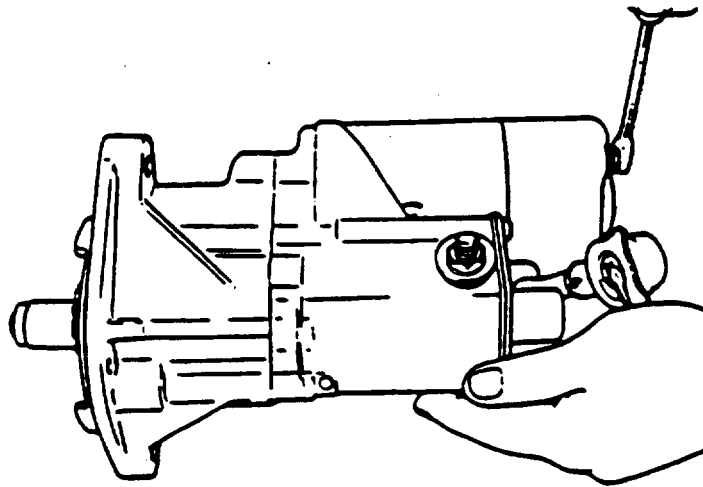

FIGURE 3-17. Removing Through Bolts (Typical)
- c. Remove two through bolts (7, FIGURE 3-15), lockwashers (8), washers (9), and preformed packings (10), refer to FIGURE 3-17. Discard lockwashers (8) and preformed packings (10).